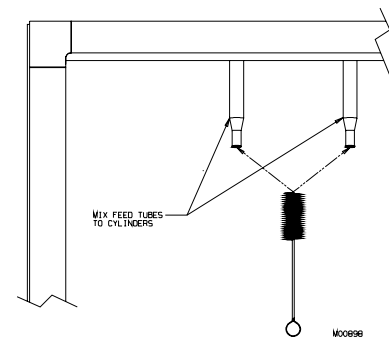
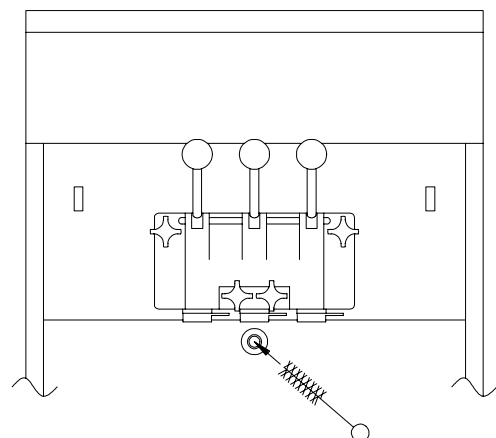

Figure 6-9 Brush inside of cylinder mix feed tubes.
Figure 6-10 Brush inside of drain tube
4. Using a warm dish detergent solution thoroughly brush; the mix feed tubes from the refrigerated cabinet to the cylinders as shown in figure 6-9, the inside of the cylinders including the back wall, and the inside of the drain tube, as shown in figure 6-10.